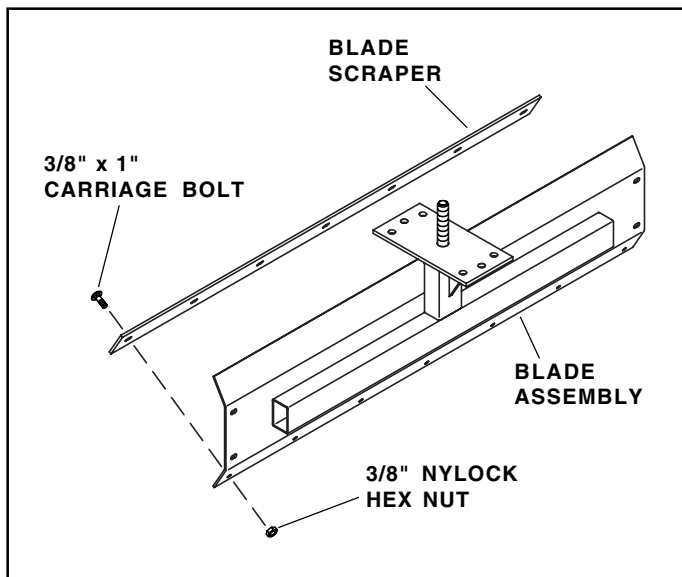

FIGURE 1
1. Assemble the blade scraper to the blade assembly using seven 3/8" x 1" carriage bolts and seven 3/8" Nylock hex nuts. **Tighten.** See figure 1.